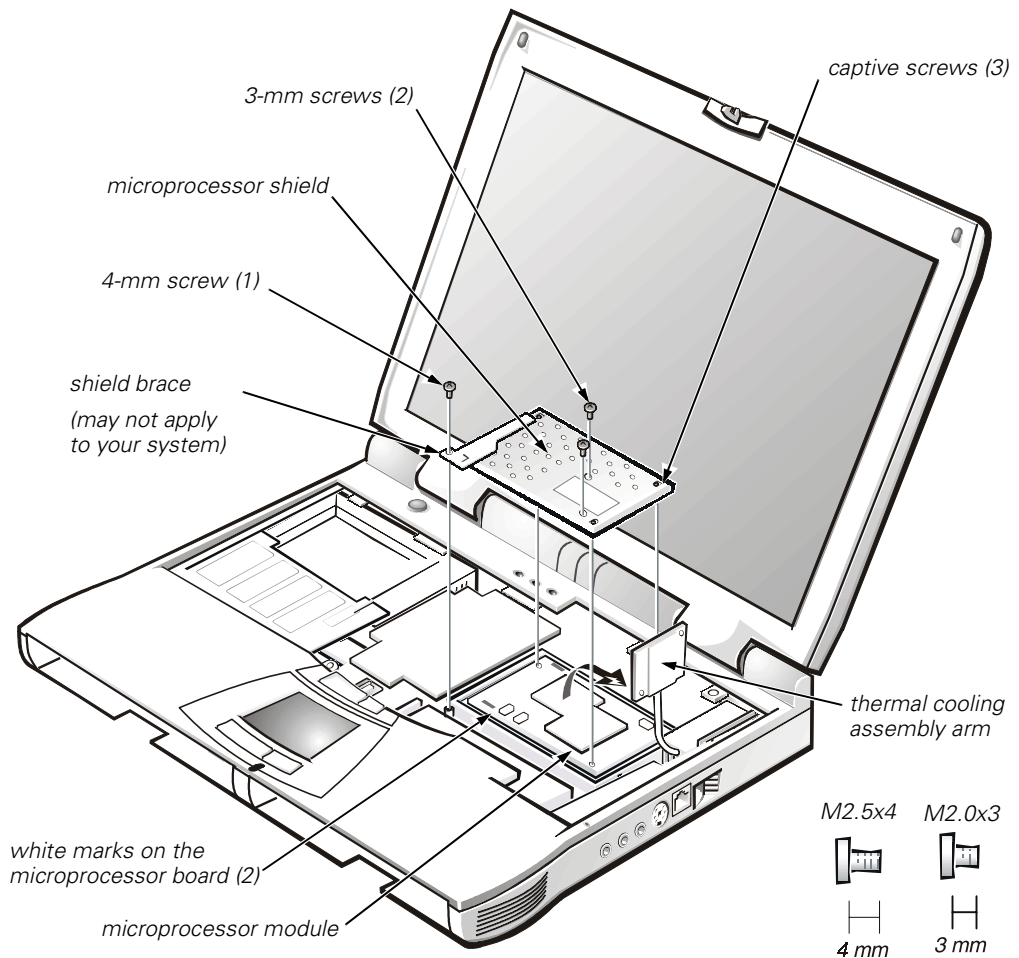

Figure 12. Microprocessor Module Removal
3. Remove the two 3-mm screws on the microprocessor shield securing the thermal cooling assembly to the microprocessor module (see Figure 12).
5. Remove the 4-mm screw that secures the microprocessor shield brace (see Figure 12).
The tool fits on the left side of the module aligned with white marks on the front and back edge of the processor board (see Figure 12).
NOTE: If your system uses a microprocessor shield with the brace as shown in Figure 12, the 4-mm screw used in step 6 secures this corner.
7. Tighten the three captive screws on the corners of the shield to secure the microprocessor module and shield (see Figure 12).